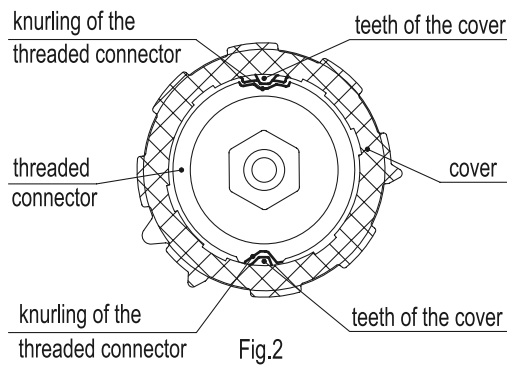

Fig.2
- 3) Fit the cover on the threaded connector by properly matching the two different teeth (different shape) of the cover and the relevant knurling on the upper part of the threaded connector (Fig. 2). On this knurling there are two stop positions, where the teeth of the cover are fitted: one is for the breather closure and the other one is for the sealing closure.